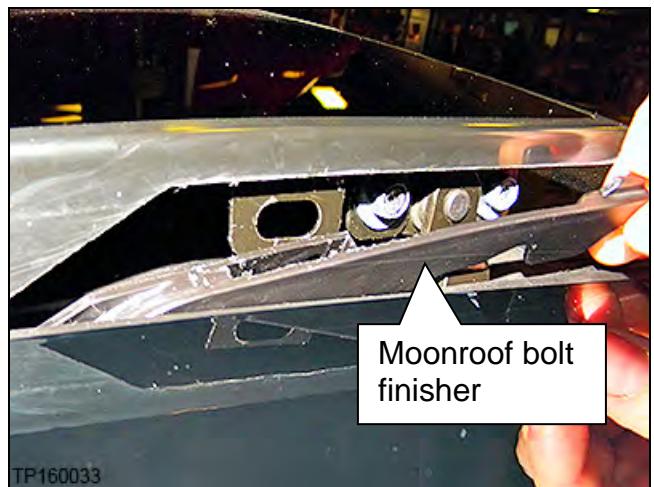

Figure 56
- g. Push the moonroof bolt finisher down and remove from the vehicle (Figure 56).